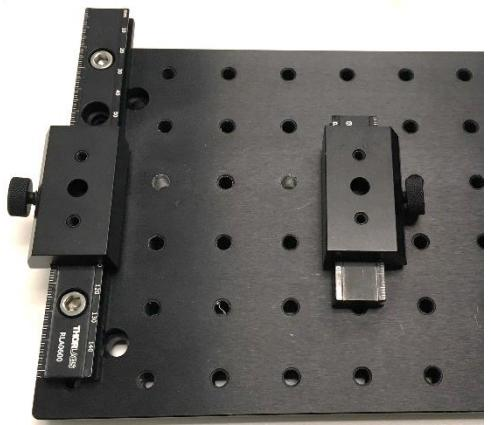

Figure 106 Rail carriers installed
- See Figure 106 for the results of this step.